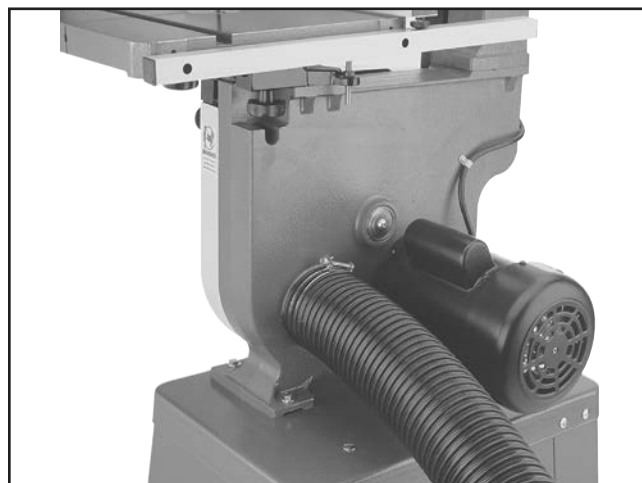

Figure 26. 4" dust hose attached to dust port.
1. Fit the 4" dust hose over the dust port, as shown in **Figure 26**, and secure in place with a hose clamp.